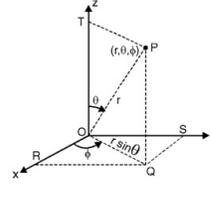

Fig. 6.1.11 : Relation between Spherical and Cartesian coordinates
- To find x and y corresponding to point P, project point P in xy plane (Fig. 6.1.11). The projection is $OQ = r \sin \theta$. Now its projection on x and y axis gives x and y coordinates corresponding to point P.